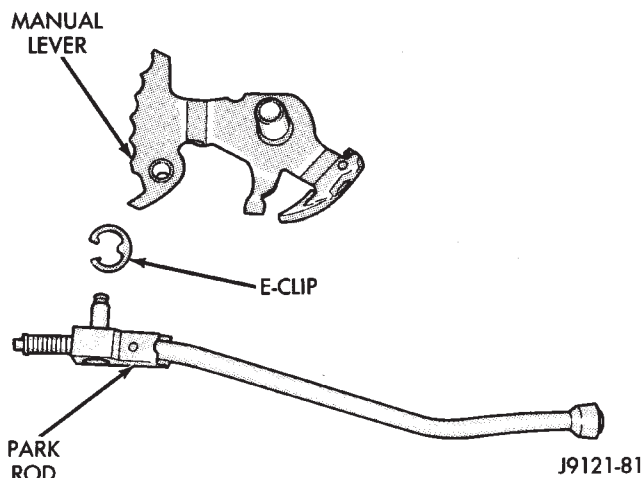

Fig. 45 Park Rod
(15) Remove park rod E-clip and separate rod from manual lever (Fig. 45).